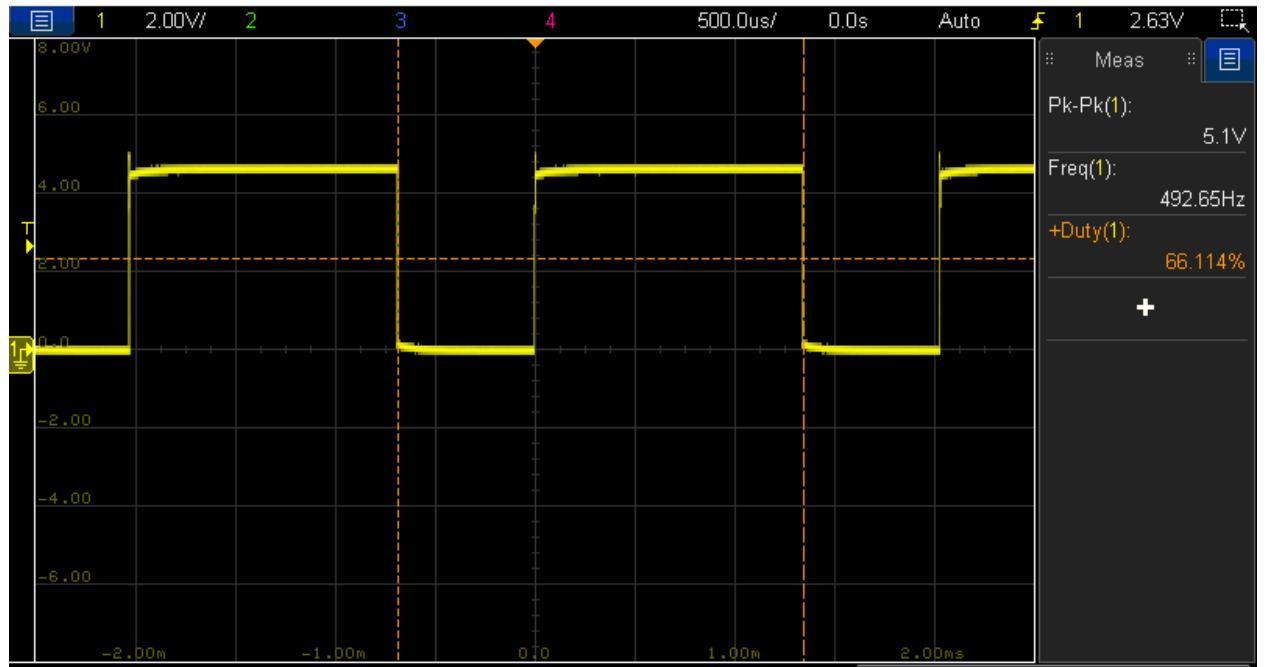

Figure 5: Output of the 555 timer under no load
- $V_{oc} = 5V$ (Open Circuit Voltage) (Figure 5)